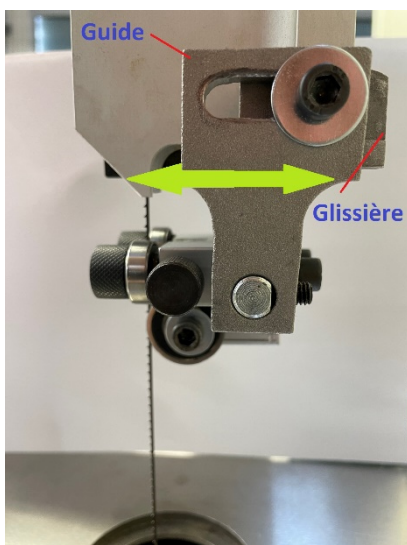

Figure 20
- after loosening the top screw, advance the guide to the bearing groove by sliding the guide. Before tightening the screw, make sure the guide is in the correct position in the slide. (Fig 20)